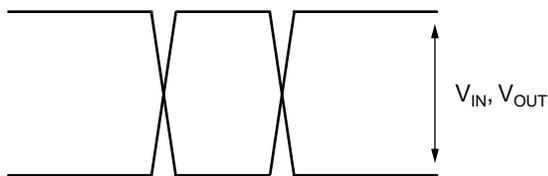

**Figure 1a. Timing Diagram (EN, IN1, IN2)**
**Note 1.** Measured with a 2.0V input signal, 50% duty cycle, all PECL loading with  $50\Omega$  to  $V_{CC}-2V$ . Output swing is  $\geq 400mV$ .**Note 2.** Specification for packaged product only.**Note 3.**  $f_{MAX}$  is defined as the maximum input frequency while enduring a valid output.  $f_{MAX}$  is limited by the input stage.**Note 4.**  $V_{IH} = 2.0V$ ,  $V_{IL} = 0.8V$ , 50% duty cycle. Delay measured at 100MHz from the crossing of the input signal with  $V_{CC}/2$  as the crossing of the differential output signal. See Figure 1.**Note 5.** Skew is measured between outputs under identical transitions.**Note 6.** Cycle-to-cycle jitter definition: The variation period between adjacent cycles over a random sample of adjacent cycle pairs.  $T_{JITTER\_CC} = T_n - T_{n+1}$ , where T is the time between rising edges of the output signal.**Note 7.** Total jitter definition: with an ideal clock input frequency of  $\leq f_{MAX}$  (device), no more than one output edge in  $10^{12}$  output edges will deviate by more than the specified peak-to-peak jitter value.**Note 8.** If  $t_r/t_f$  is less than 350ps, the duty cycle distortion will increase beyond the duty cycle limits.**Note 9.** Set-up and hold times apply to synchronous applications that intend to enable/disable before the next clock cycle. For asynchronous applications set-up and hold times do not apply.**Note 10.** See "Timing Diagrams," Figure 1a.